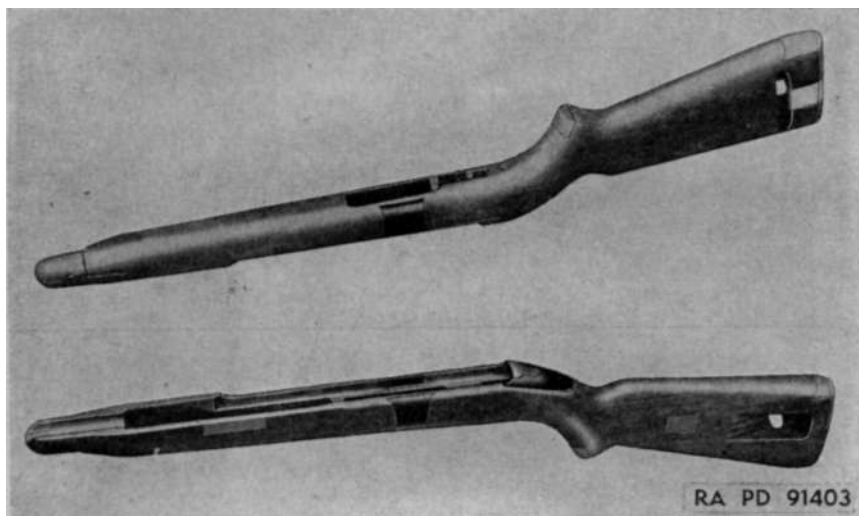
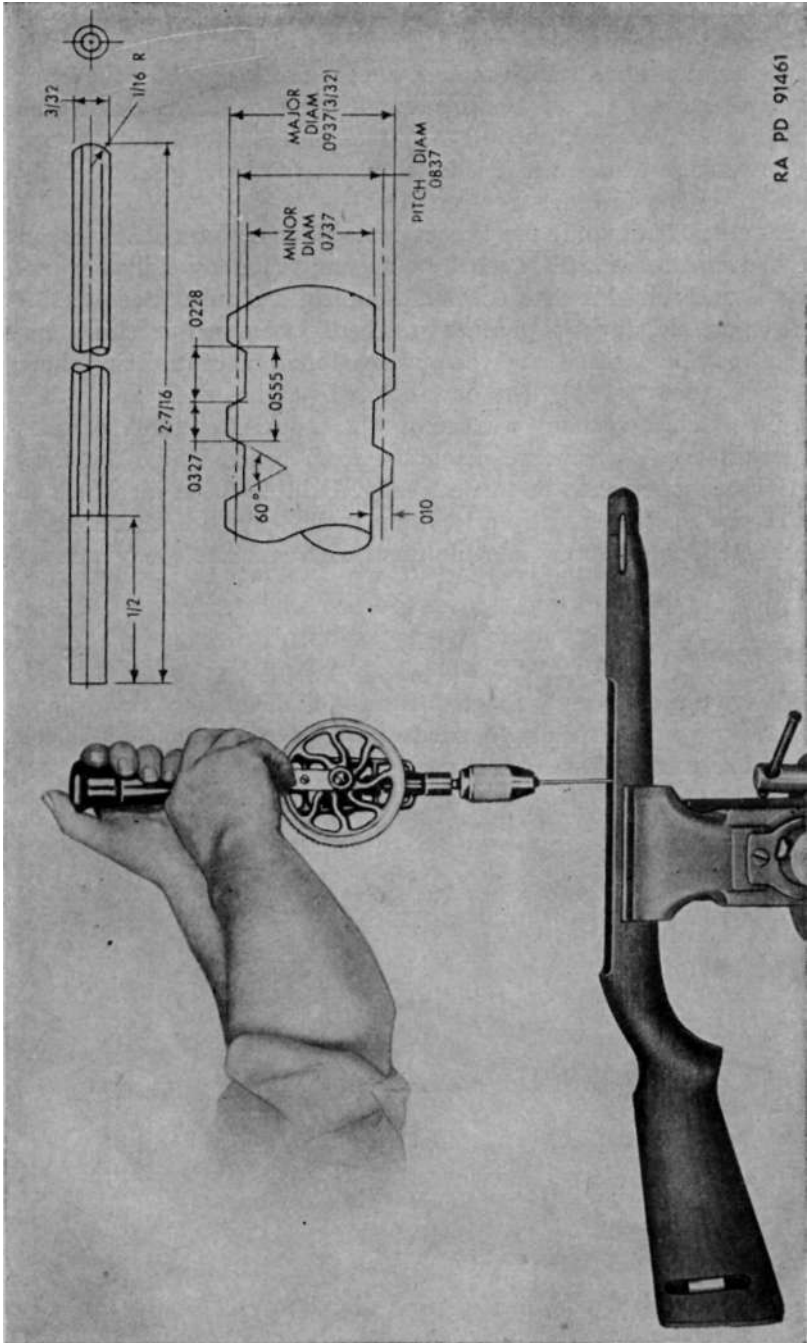

Figure 65. Patching stock — carbines, cal. .30, M1 and M2.
Figure 66. Installing reinforcing screws — carbines, cal. .30, M1 and M2.
d. PATCHING STOCKS. In most cases damaged or splintered stocks can be patched and reused. This must be accomplished by skilled workmen and is authorized in fifth echelon organizations only. (See fig. 19.) Wherever possible, dovetail patches in. The light-colored patches show areas that may be patched, and the approved method of inserting them in the stock. (See fig. 65.) The dark-colored patches show areas that cannot be patched without weakening the stock. Reinforce patches with special screws which are machined from brass. These are non-requisitionable and are to be made locally. Drill an 0.081-inch hole to receive screw. Install screw by gripping it in the chuck of a hand drill. (See fig. 66.) Cut off screw and file flush with stock. No edges must protrude.